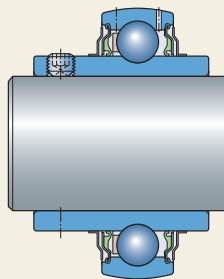

Fig. 5
- with an eccentric locking collar (fig. 5)